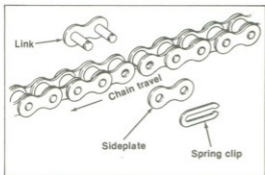

Figure 6-9. Chain Connecting Link
See Figure 6-9. Be sure clip is correctly and securely locked on pin ends with open end trailing direction of chain travel.
- See Figure 6-9. Locate and remove the spring clip on the chain connecting link.